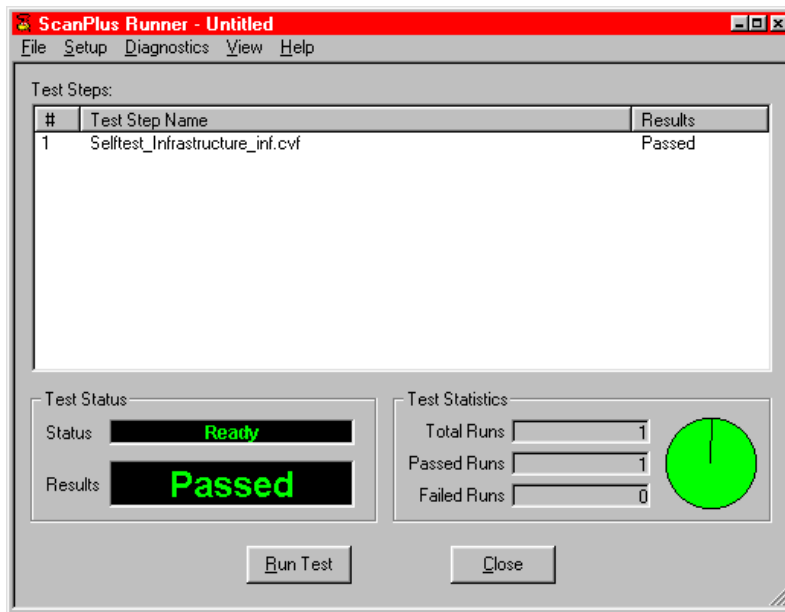

Figure 4-1. ScanExpress Runner Infrastructure Test
- Step 11** Select Run Test. The test should run and pass. Figure 4-1 shows a passing infrastructure test.